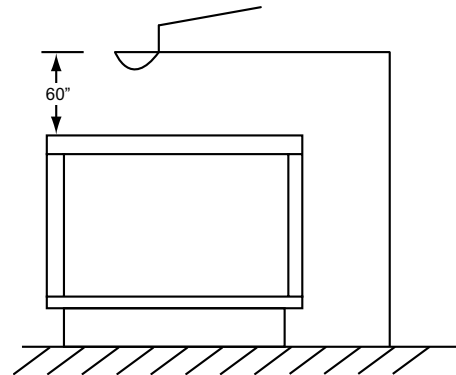

Figure 2: Air Discharge Clearance
6. Air Circulation – The outside coil sides should not be closer than 24 inches to a structure that will restrict air flow through the coil. The air discharge of the unit requires a 60-inch clearance between the top of the unit and any obstruction. See Figure 2.